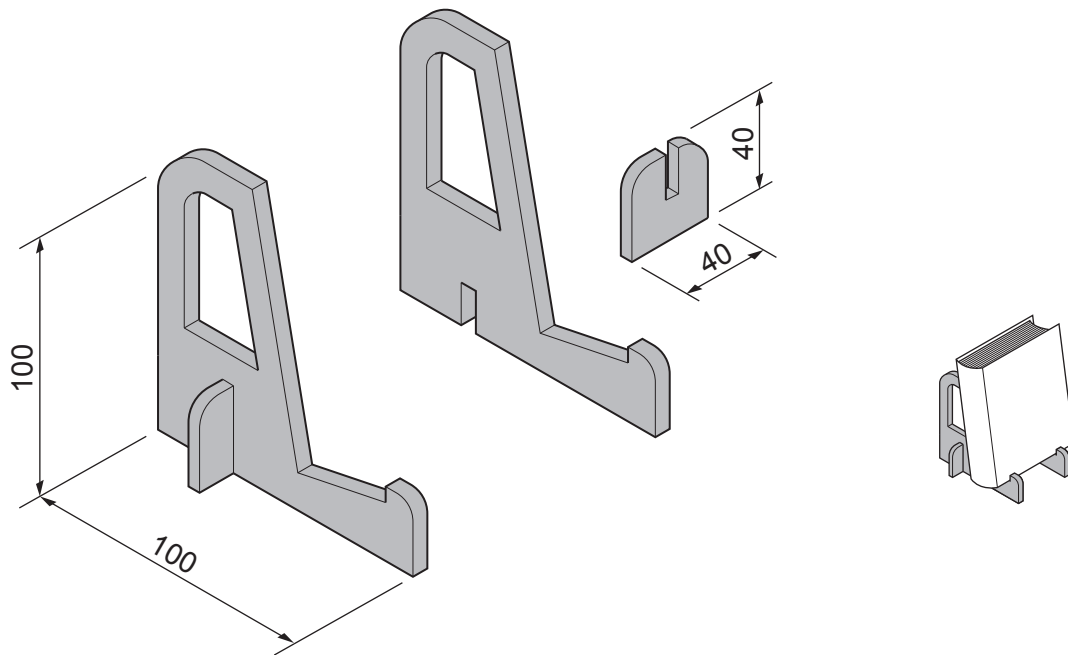
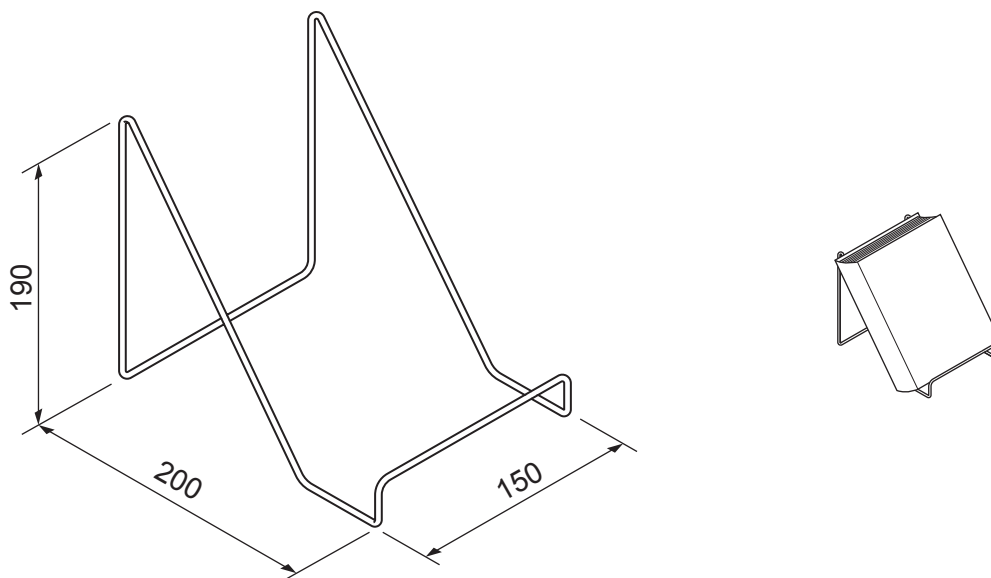

Fig. 12.1
Fig. 12.5
- 12 Fig. 12.1 shows a book stand that will be used to display books in a school library. The book stand is made from 5 mm thick acrylic and a batch of ten will be produced by hand in a school workshop.
- (e) Fig. 12.5 shows a different design for a book stand made from one length of  $\text{Ø}5$  non-ferrous metal rod.
(iii) Use sketches and notes to show how a single length of Ø5 non-ferrous metal rod could be bent to the shape of the book stand shown in Fig. 12.5.
(f) Describe **one** different design feature of each of the book stands shown in Fig. 12.1 and Fig. 12.5.
Acrylic book stand Fig. 12.1 .....
Metal book stand Fig. 12.5 .....